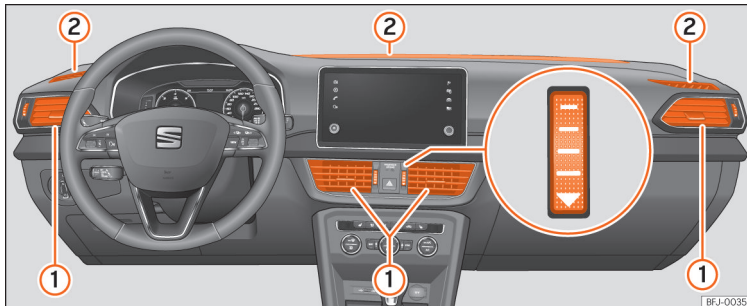

Fig. 187 On the dash panel air vents.
To ensure proper heating, cooling and ventilation in the vehicle interior, air vents **»» Fig. 187 ①** should remain open.